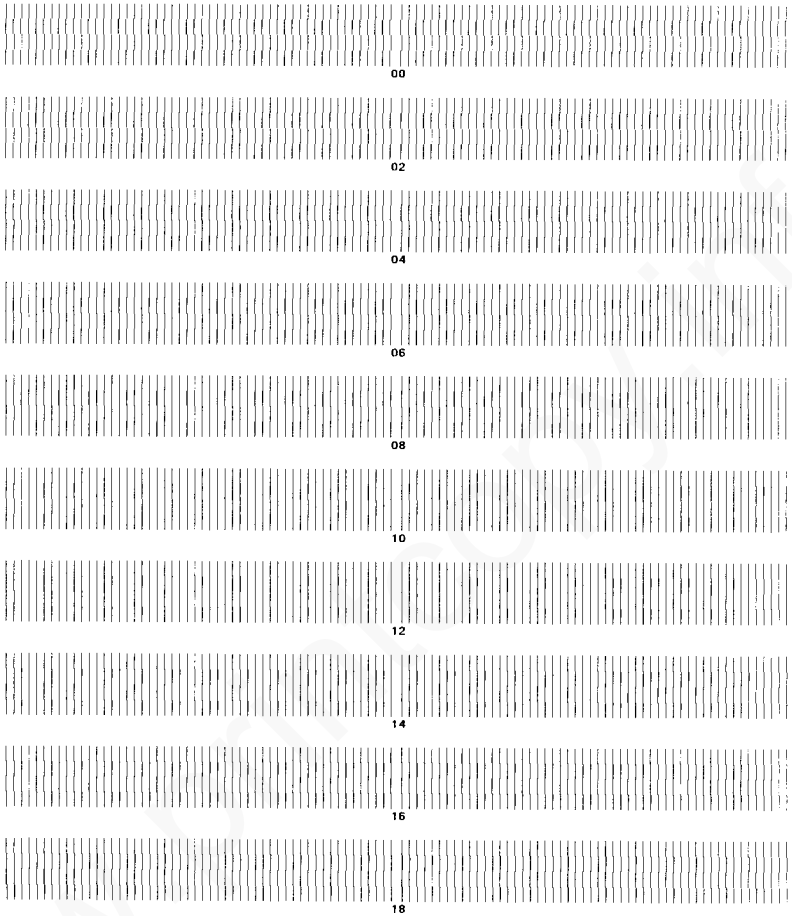

Fig. 6-1
c) Make sure that there is paper in the ASF, and then press ◀: the test chart shown in fig. 6-1 is printed out	<div>ALIGNMENT TEST ◉</div>